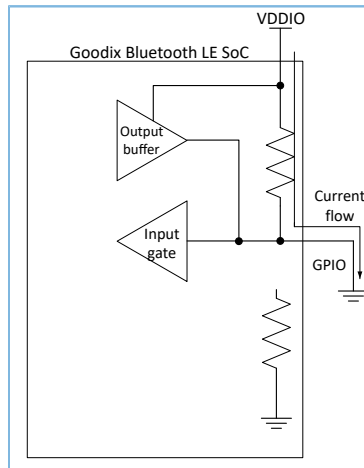

Figure 4-2 Current flow for a low driven input
- (1) If a GPIO pin is used as an input with the on-chip resistor enabled as a pull-up resistor and the external drive device driving the pin is driving a low level on the pin, current will flow from VDDIO through the pull-up resistor to ground (through the external device), as shown in Figure 4-2.